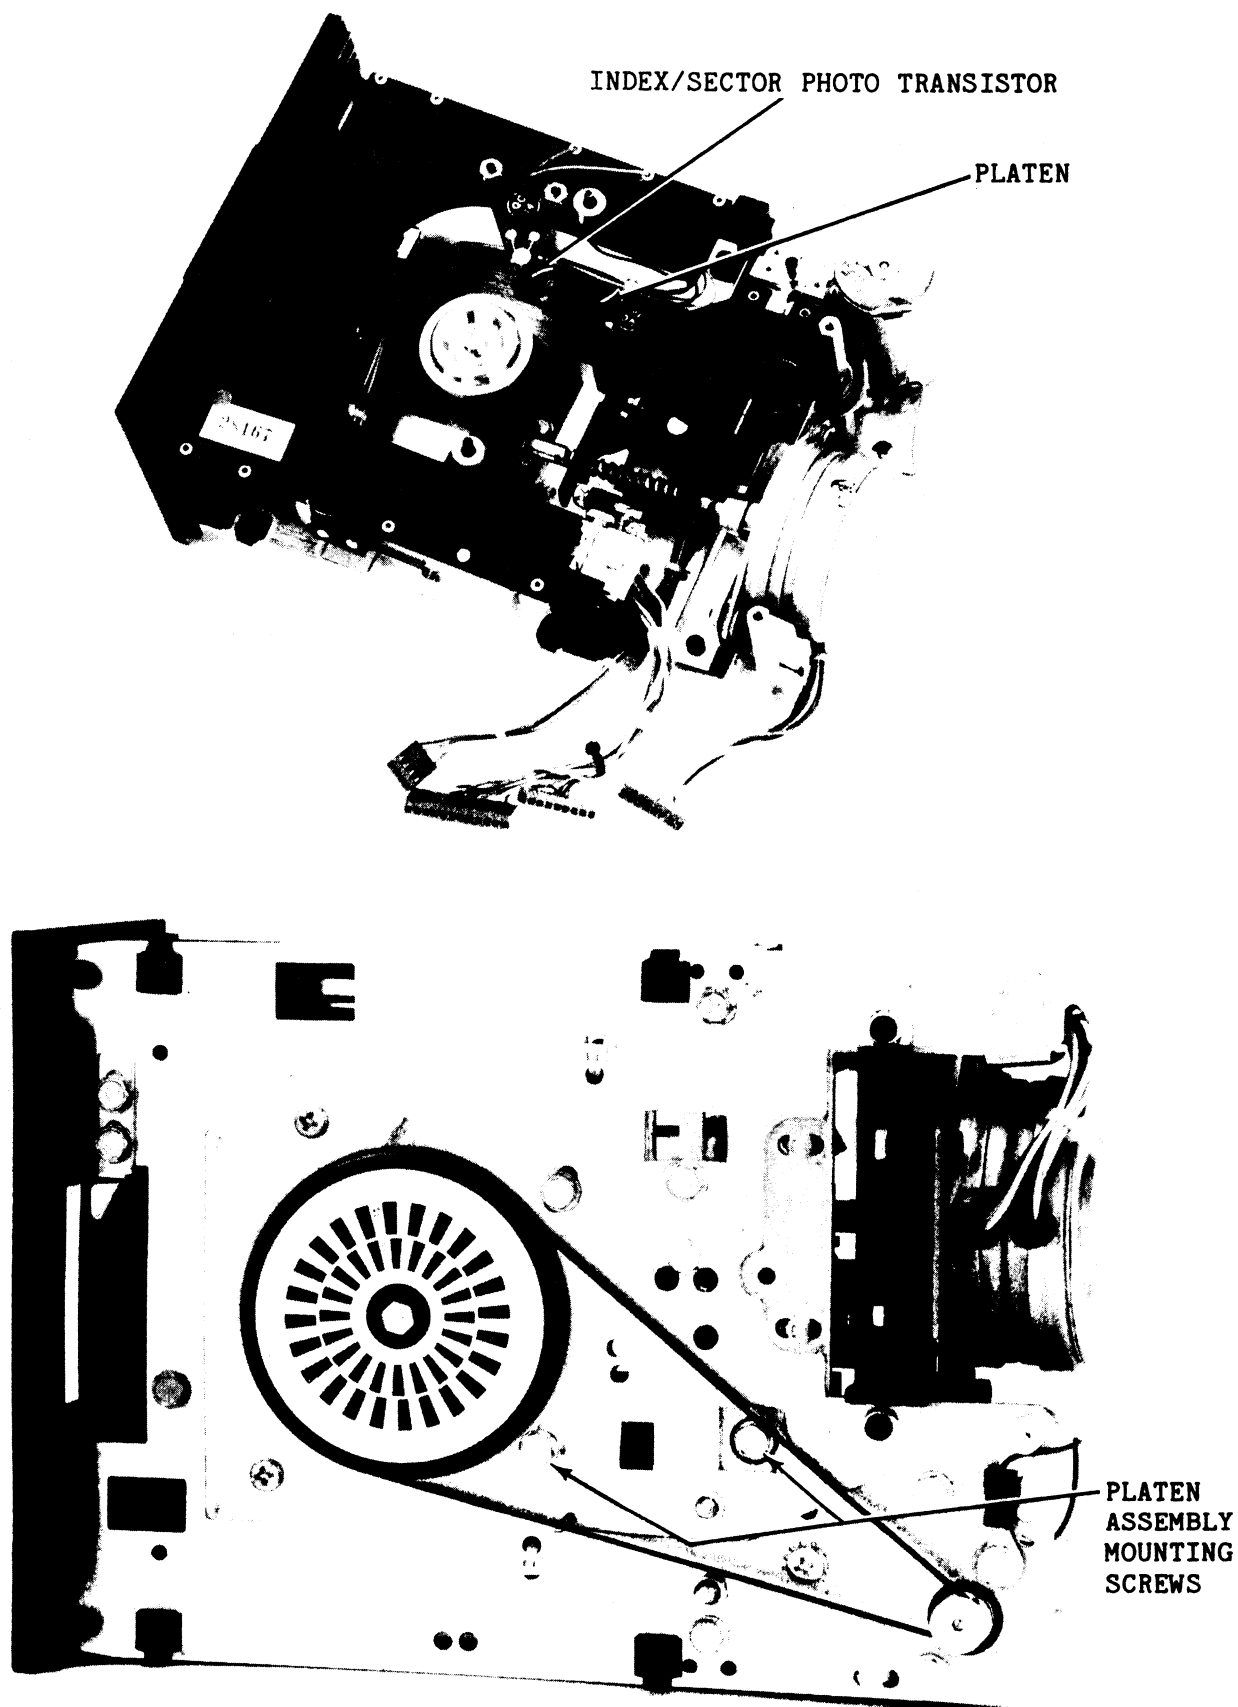

Figure 6-12. Platen Details
- a. While holding the platen (see Figure 6-12) in place, remove two platen mounting screws.